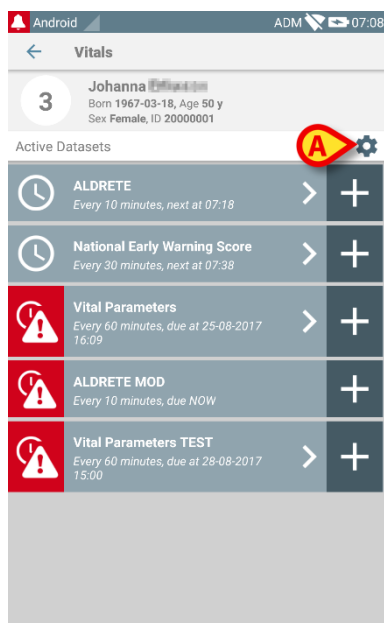

Fig 69
To access the dataset configuration options, after patient selection, on the datasets list screen (Fig 69),
- Touch the  icon (Fig 69 A).